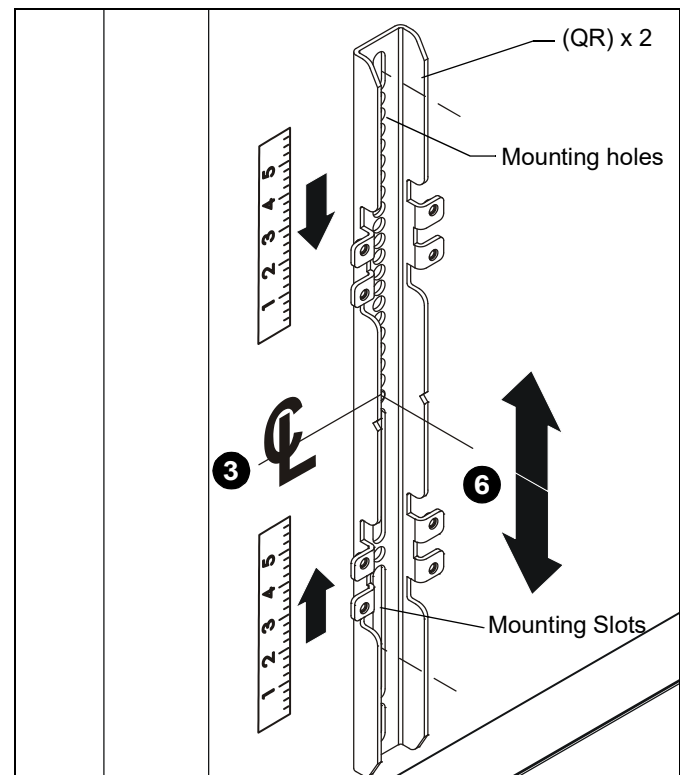
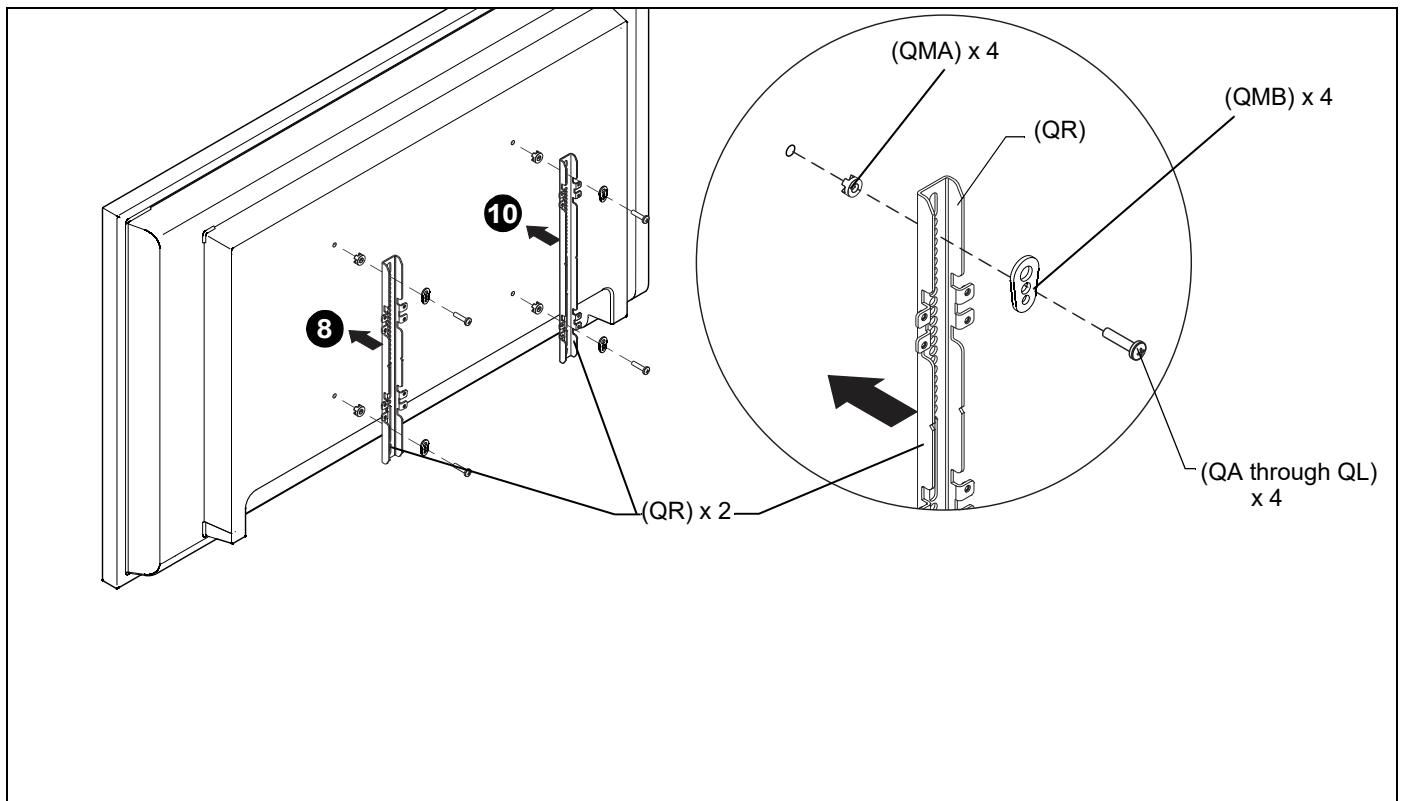

Figure 8
Figure 10
3. Determine and mark the vertical center position between the Left side Upper and Lower mounting holes in display. (See Figure 8)
4. Determine and mark the vertical center position between the Right side Upper and Lower mounting holes in display. (See Figure 8)
5. Orient vertical mounting bracket (QR) so that mounting holes are on top and mounting slots are on bottom. (See Figure 8)
6. Align mounting holes in vertical mounting bracket (QR) with upper and lower mounting holes in display.
7. Adjust vertical mounting bracket (QR) position until mark made in Step 1 aligns with center mark in vertical mounting bracket (QR).
8. Select correct screws, nesting spacers (if necessary) and universal washers (if required) from the hardware bag (QA-QM) and attach brackets to back of screen. (See Figure 10)
9. If the display has a recessed mounting surface, protrusions or a power box, a spacer and longer mounting hardware must be placed between the display and vertical mounting bracket (QR). (See Figure 10)